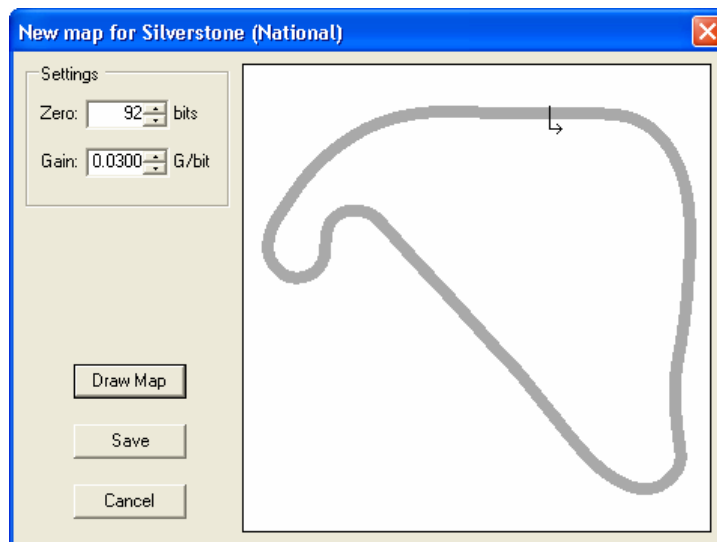

Figure 19 - New Circuit Map Dialog
2. Choose **Map** → **New** from the main menu. The New Circuit Map dialog (Figure 19) appears.